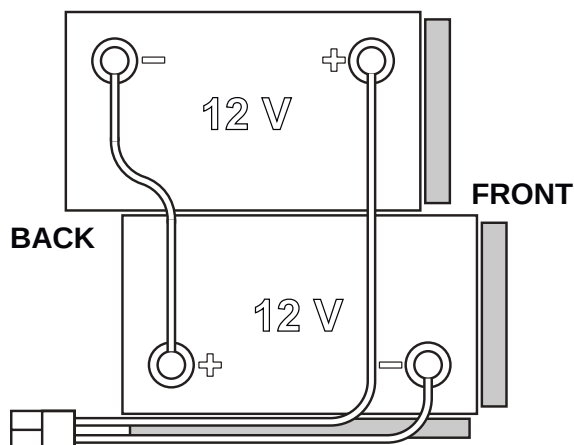

Figure 1
The machine requires 2 12 V batteries, connected according to the diagram shown in Figure 1.
1. Remove the operator key (41).
2. Disconnect the battery connector (9).
3. Lift the cover (34) and check that the recovery tank (33) is empty; if not, empty it using the drain hose (12).
4. Close the cover (19).
5. Grasp the handle (16) and carefully lift the tank (33).
7. Route and install the battery cable as shown in Figure 1, then carefully tighten the nut on each battery terminal.
8. Place the protection cap on each terminal, then connect the battery connector (9).
9. Grasp the handle (16) and carefully lower the tank (33).